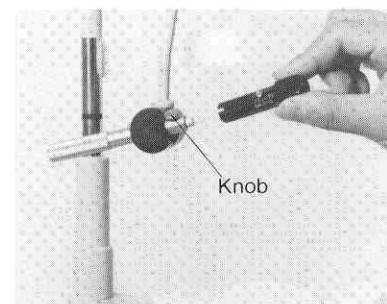

Fig. 49
- (1) Loosen the knurled knob of the fixation target ④ slightly and detach the target end. (Do not turn the knob too much, as it will become detached.)
- (2) Grip the exposed lamp bulb and pull out until it comes off.
- (3) Replace with a new bulb and check illumination of the target. (See Fig. 49)